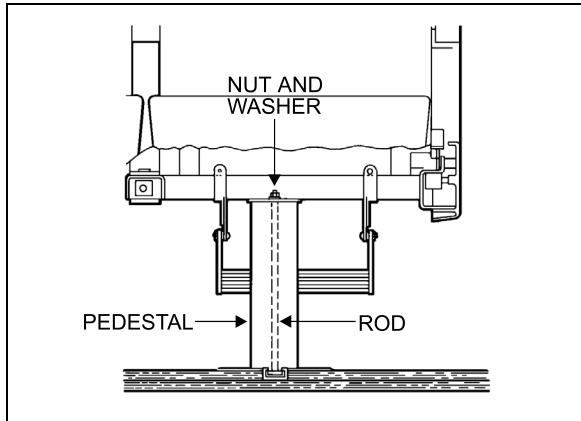

FIGURE 46: SEAT PEDESTAL ASSEMBLY
5. Remove 2 nuts and washers holding seat frame to pedestal rods. See figure 46.